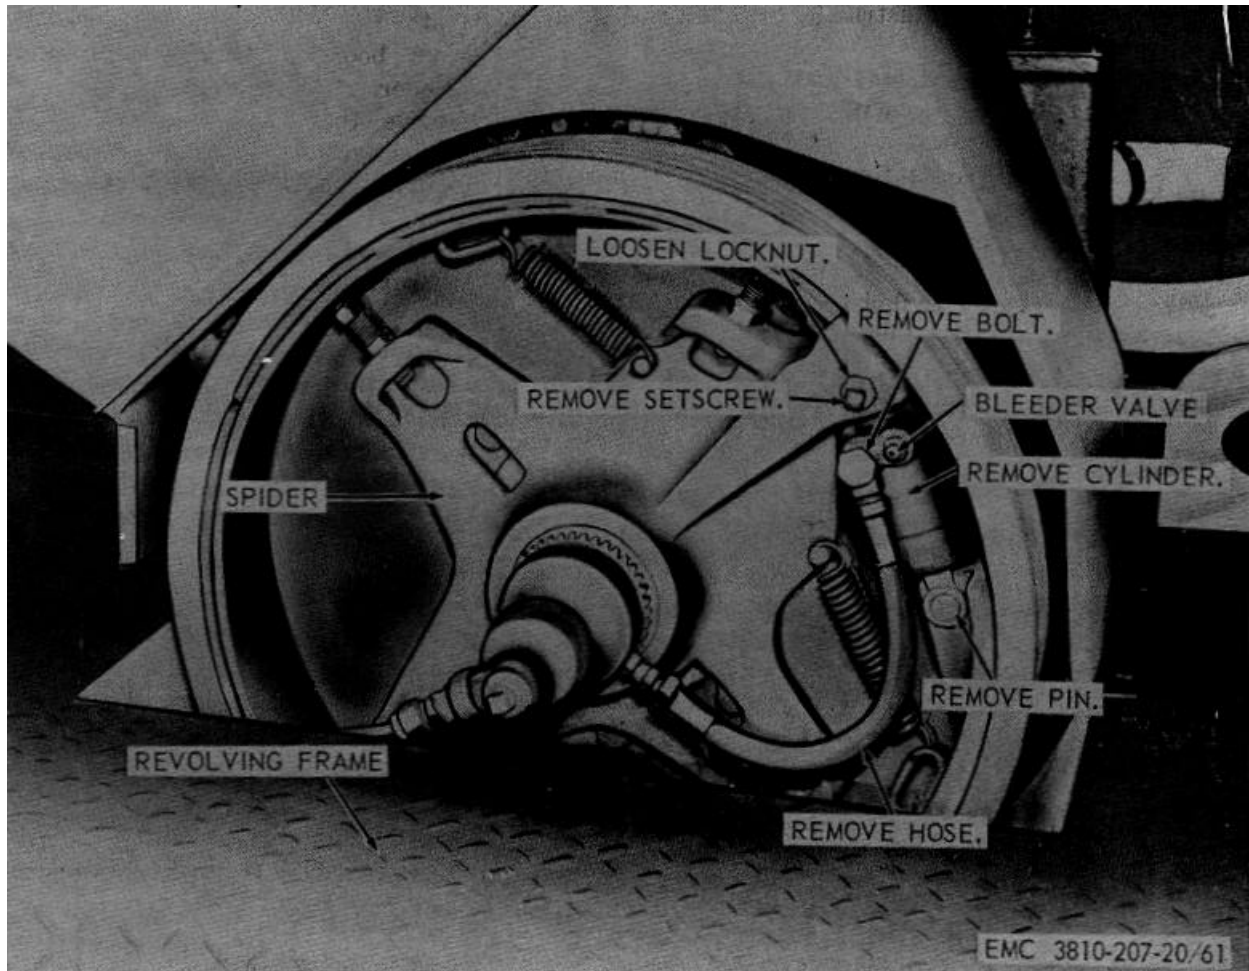

Figure 61. Boom hoist clutch hydraulic cylinder, removal and installation.
- (1) Drain boom hoist clutch hydraulic cylinder.
- (2) Remove the boom hoist clutch hydraulic cylinder as instructed on figure 61.
- (1) Install the boom hoist clutch hydraulic cylinder as illustrated on figure 61.